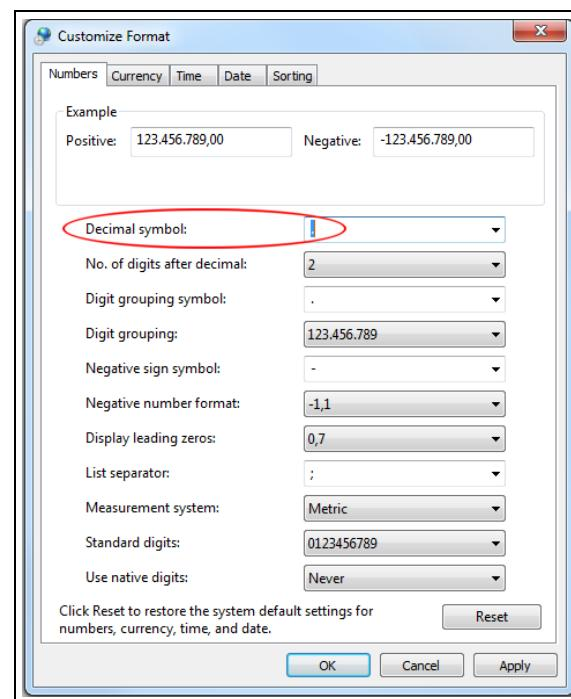

Figure 55
- (1) Contact the Regional Support Network (RSN) to get the password for user **NXWorkStationUser**.
- (2) Switch user to **NXWorkStationUser**.
- (3) Go to **Control Panel > Region and Language**.
- (4) Set **format to English (US)**.
- (5) Go to **Additional settings....**
- (6) Set the Decimal Symbol to a “dot”. See Figure 55.
- (7) Select **Apply** and leave the Region and Language window.
- (8) Switch user to **crservice** again.